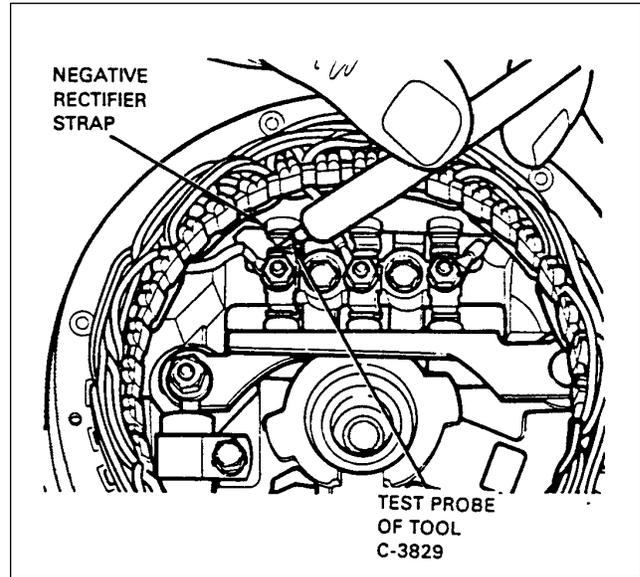

Figure 24-6. Testing Negative Rectifiers with C-3829 Tester
**TESTING OF NEGATIVE RECTIFIERS USING C-3829 TESTER** (figure 24-6)